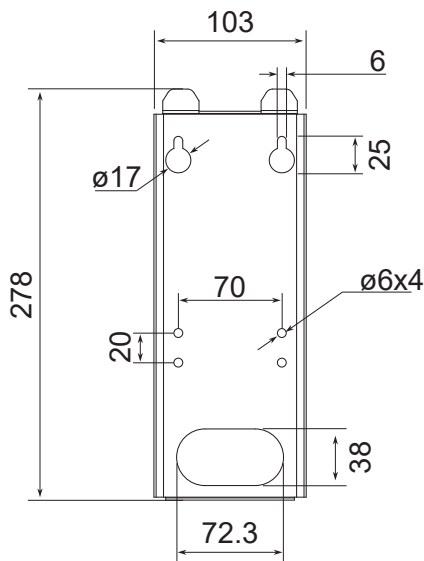

Fig. 5-2 Dimensions of the wall metal bracket
2. Drill 4 holes with a diameter of 8 mm and a depth of at least 50 mm at a distance of 70 mm in width and 280 mm in height. Use the upper and lower holes of the metal bracket as shown in Fig. 5-2.